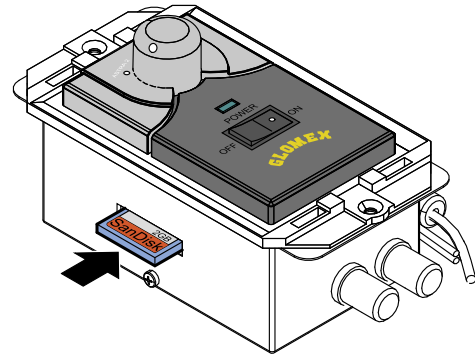

Fig. 34
3. Insert the SD card into the relevant slot on the control unit side, as indicated in **Fig. 34**, respecting the direction (side with manufacturer label up) and making sure you have completely inserted it.